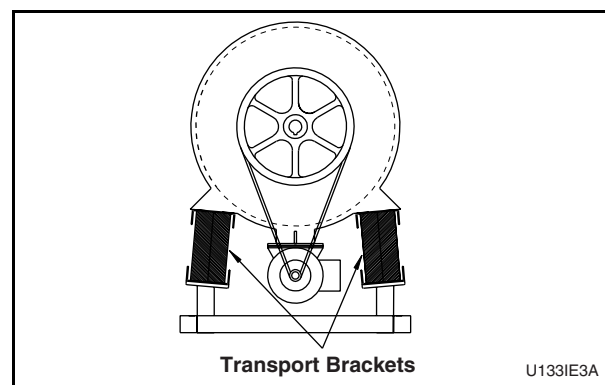

Figure 7
8. Remove the four red transport brackets which secure the moving components of the machine during shipping. See Figure 7 for typical transport bracket locations on 18-pound and 25-pound capacity freestanding models.